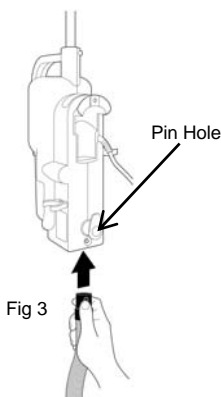

Fig 3
- Press in the pin at the end of the hose. (Fig. 3)